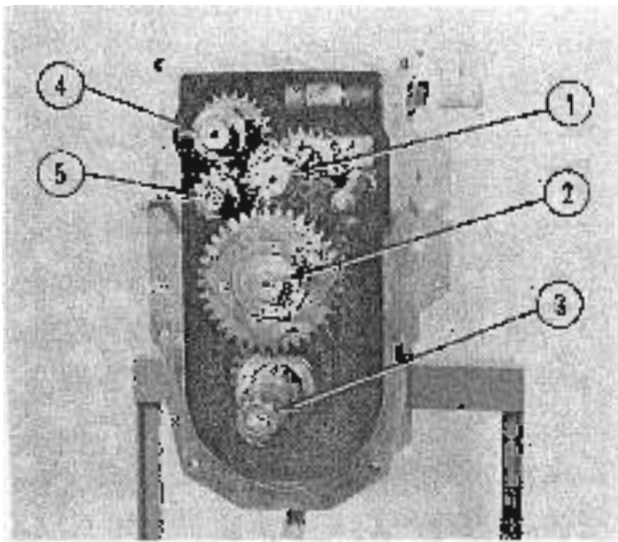

FIG. 1
To aid in orientation, Figure 1 identifies the (5) shafts that will be re-assembled into the case.
- (1, Fig. 1) Power transmission shaft.
- (2, Fig. 1) Idler shaft.
- (3, Fig. 1) Pinion shaft.
- (4, Fig. 1) 1st & 2nd gear shaft.
- (5, Fig. 1) Reverse shaft.